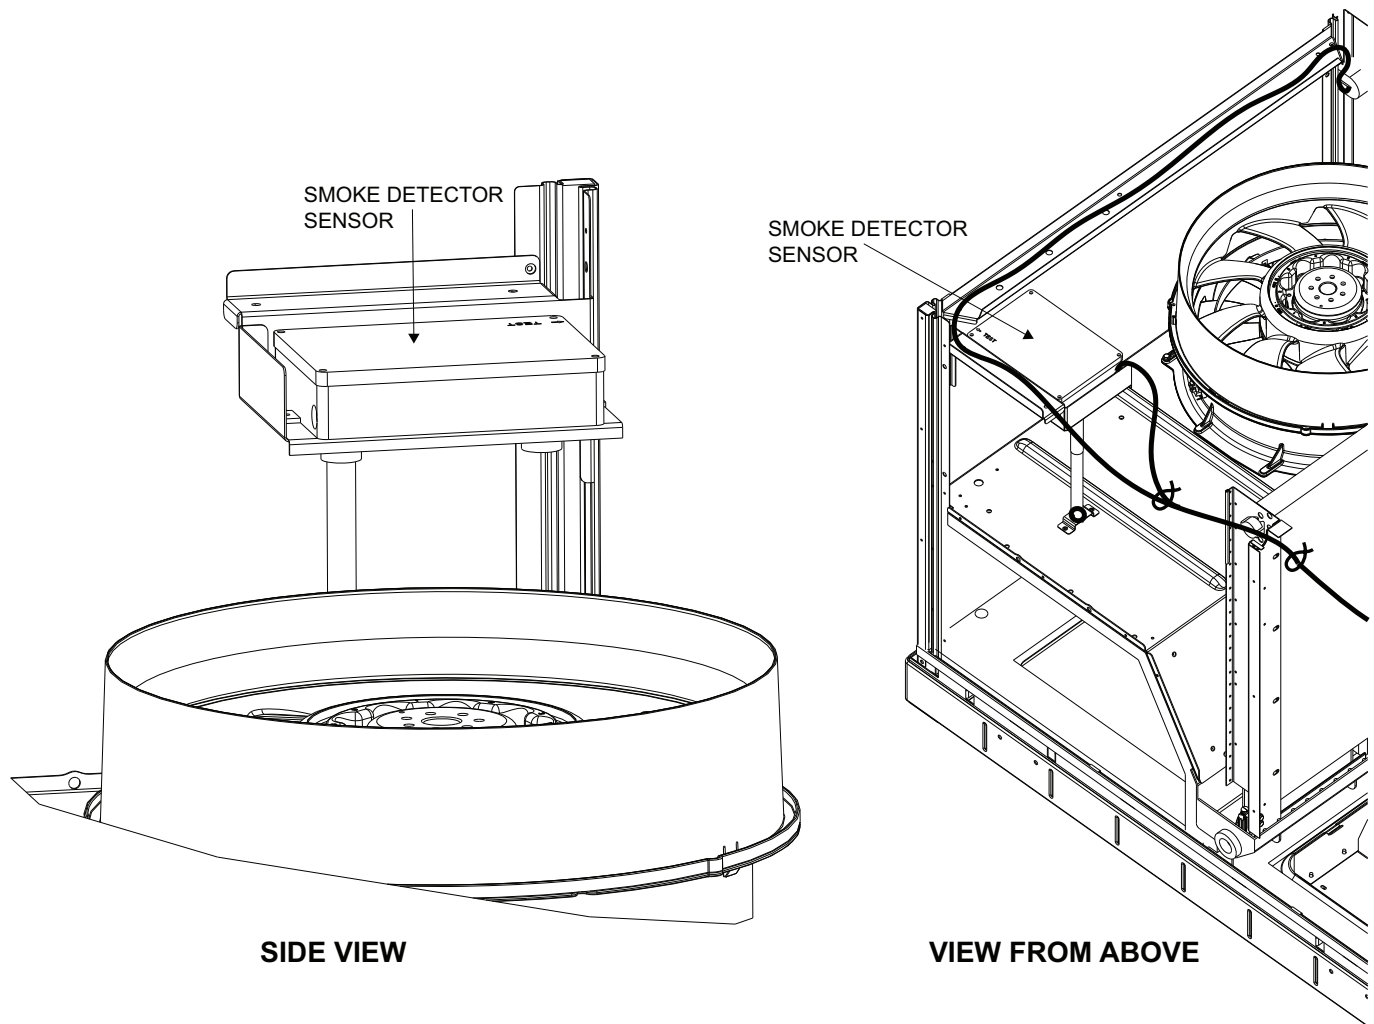

Fig. 16 — Supply Air Smoke Sensor
- c. For 48/50FC, 50FCQ, 582K, 559K, 547K, RGV, RAV, RHV (3 to 15 tons), 48/50GC, 50GCQ, 581K, 551K, 549K, RGW, RAW, RHW (3 to 12.5 ton) units, use Fig. 16. Remove 7/8 in. knockout on the fan deck. Attach the supply smoke sensor to bracket (48TC001810) using two #8 screws and ensure that the intake on the sensor will be aligned over the hole in the fan deck. Then attach the bracket to the corner post with self-tapping screws as shown in Fig. 16. Attach the tube bracket (48TC001809), aligning it over the knockout in the fan deck. Insert the 11 in. pickup tube (48TC002092) to the intake on the sensor by inserting the sampling end with the hole below the fan deck and then inserting the other end into the intake on the sensor. Orient the hole so that it points into the direction of flow.